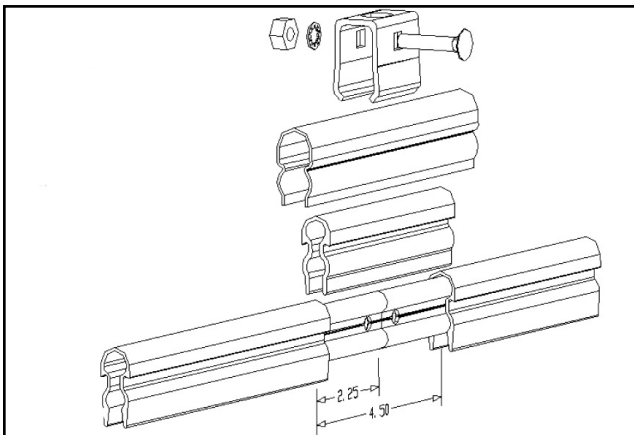

Figure 24-4
B. For high heat joint cover (PN XA-11123), see **Figure 24-4**.